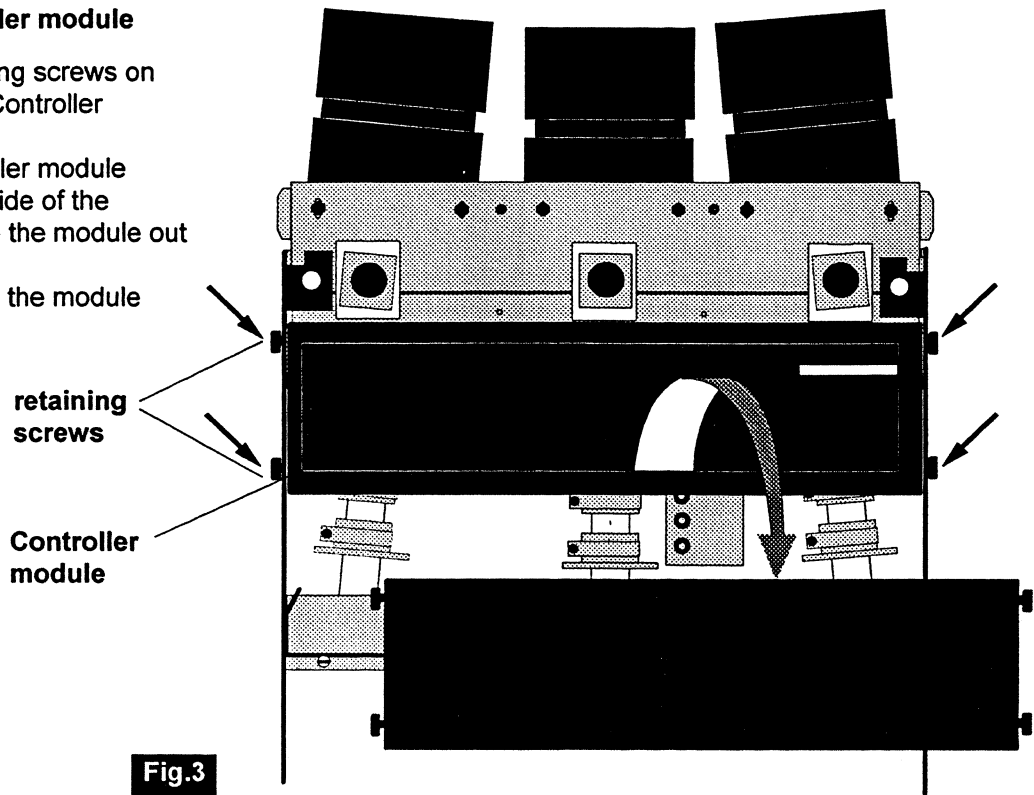

Fig.3
6. Put the controller module on its place (fig 3)